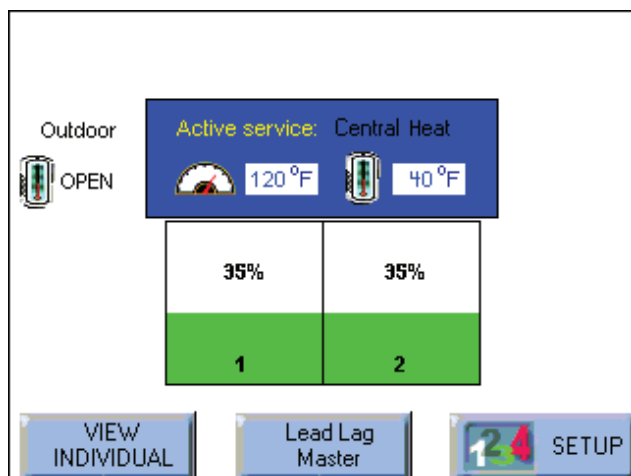

Fig. 118 – Lead/Lag Screen
- If the system was running, the following screen would normally show the current activity of each unit in the multiple boiler arrangement. See Fig. 118.